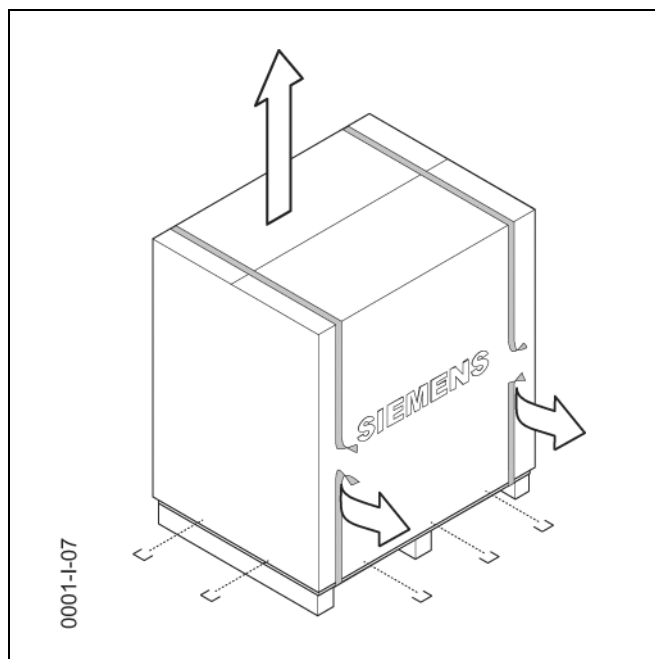

Fig. 2 Remove the fasteners from the box
- Lever out the fasteners from the box and lift off the box (see Fig. 2).